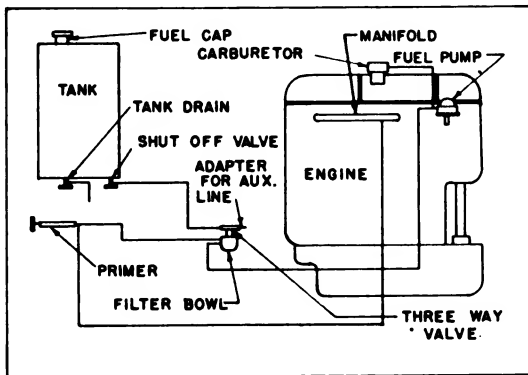

Figure 7—Fuel System
4. Press release lever on the rope starter (see Figure 7) and permit the starter arm to move toward the engine.